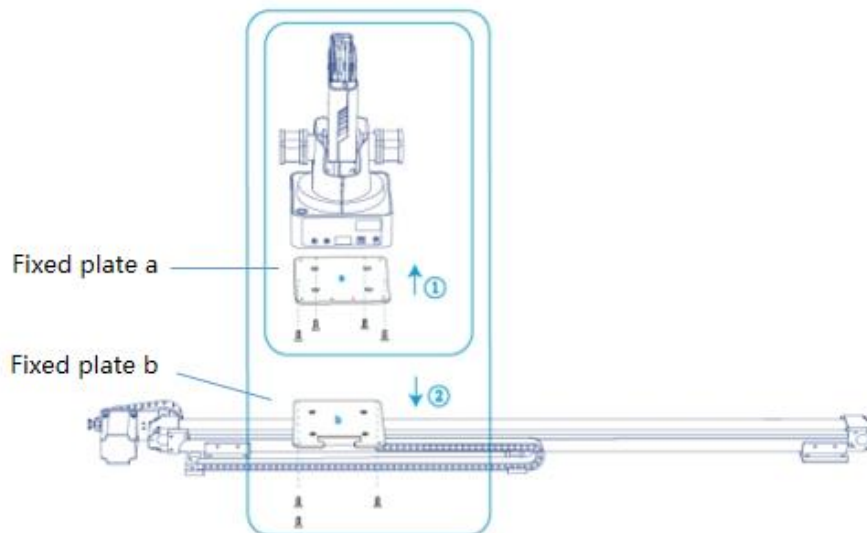

Figure 5.32 Fix Magician
- Step 2** Fix the plate a (with Dobot Magician) on the plate b with three M3\*8 hexagon socket head cap screws. Please make the back of the base of Dobot Magician towards the rabbet on the plate b, as shown in Figure 5.32.